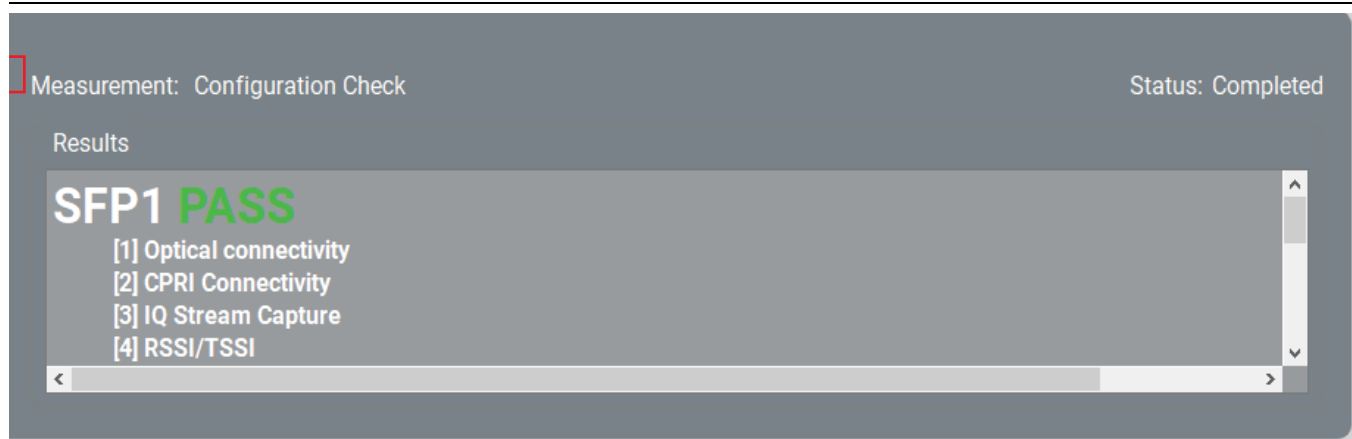

Figure 2-32. Config Check Results
- Uncheck this box to view only the options listed as shown in Figure 2-32.